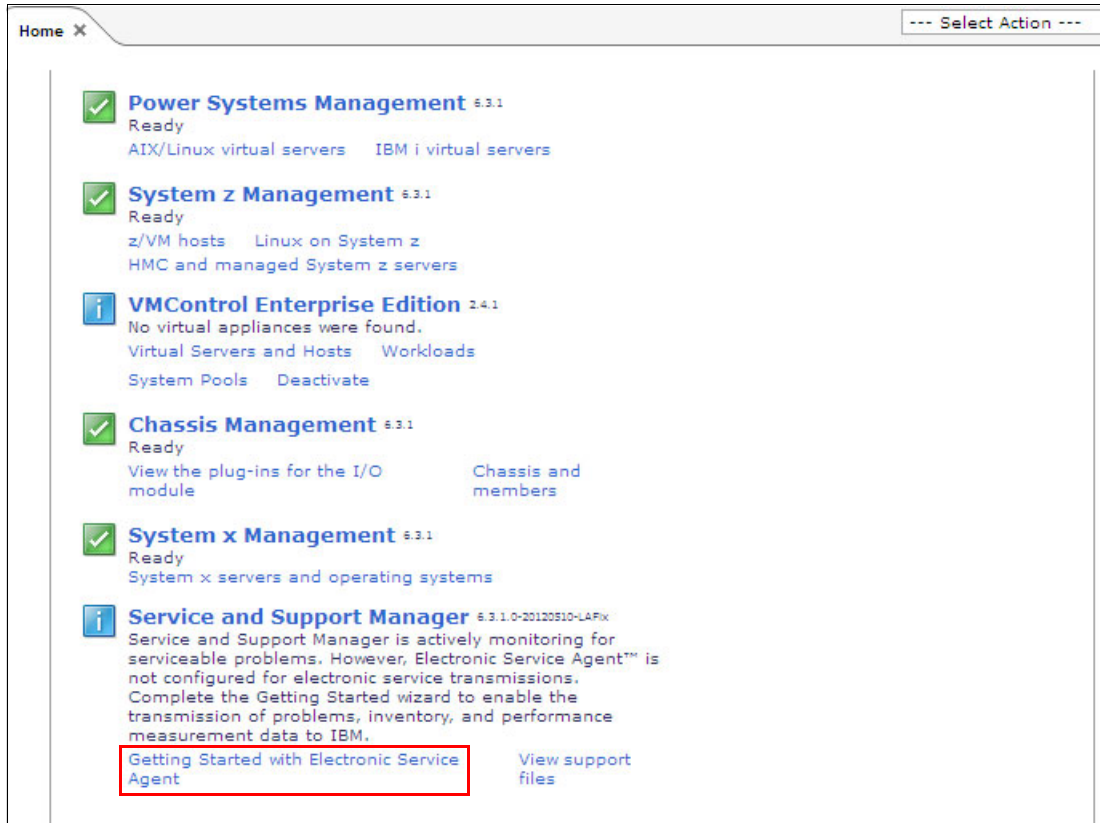

Figure 7-29 Service and Support Manager section on FSM Plug-ins window
2. Locate the Service and Support Manager section, and click **Getting Started with Electronic Service Agent**, as shown in Figure 7-29.